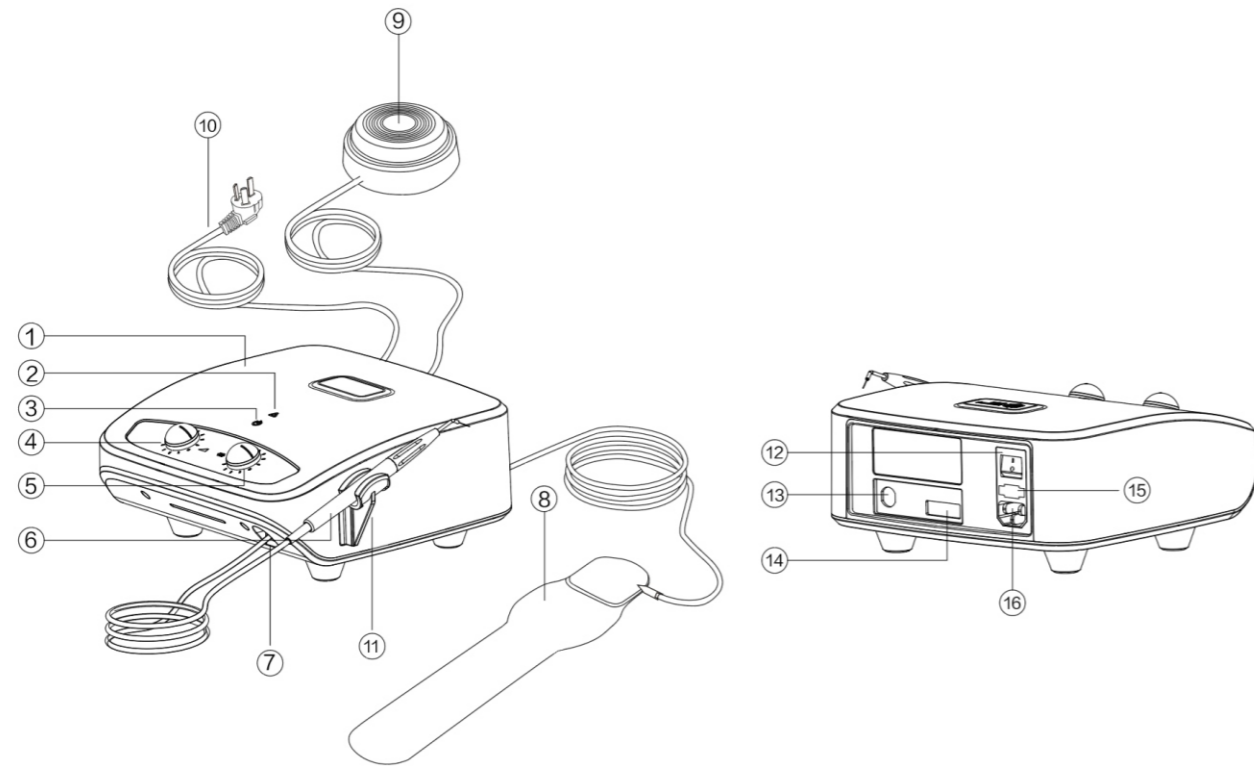

Fig.1
The device is protected by two fuses located in the power supply input connector socket (Fig.1, item 15).